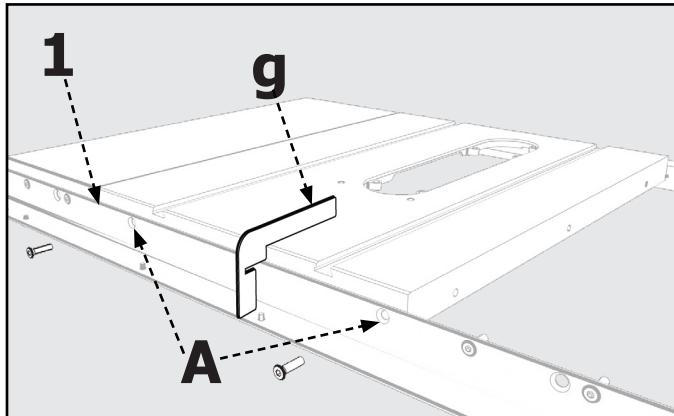

FIGURE 3
- With the left edge of the Front Guide Rail (1) near the edge of the Left Extension Wing, align the Two Holes in the table with the Two Holes in the Front Guide Rail, as indicated at location "A" in **Figure 3**.